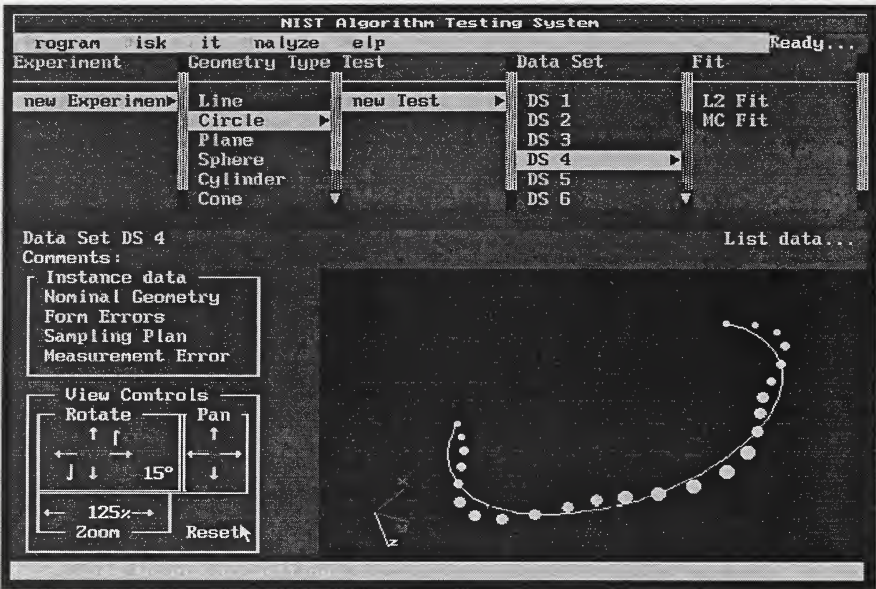

Figure 4 - View of Typical Data Set
- view control window* Using the view control window, you may rotate the image, zoom in and out, and pan. You may set the rotation increment by entering a new value in the increment field. You may zoom by using the arrows, or by entering a new value in the zoom value field. The starting zoom position (of 100%) places you at a distance so that the data set fills the graphics window. Figure 4 illustrates a typical view in the graphics window.